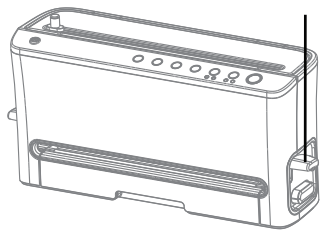

FIG. 4
- 4 Insert about 3cm in, then press down on the latches on both sides until it clicks into to the position, the bag is now ready for vacuum sealing process. **FIG. 4**